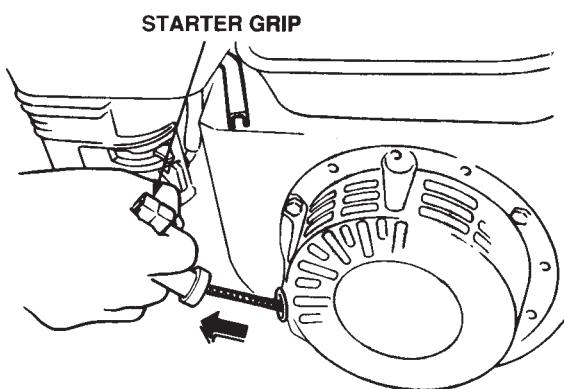

Figure 16. Starter Grip
- Grasp the starter grip (Figure 16) and slowly pull it out. The resistance becomes the hardest at a certain position, corresponding to the compression point. Pull the starter grip briskly and smoothly for starting.
Refer to Figure 16.